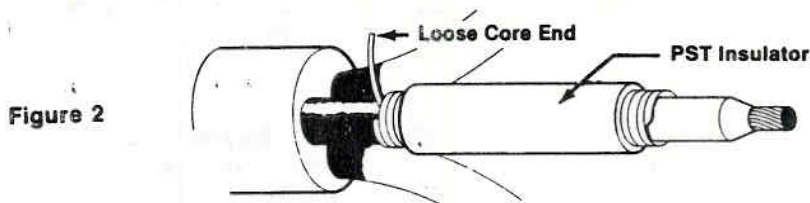

Figure 2
1. Select one cable end and slide a PST Insulator onto each power conductor, putting the loose core ends on first. (Figure 2)